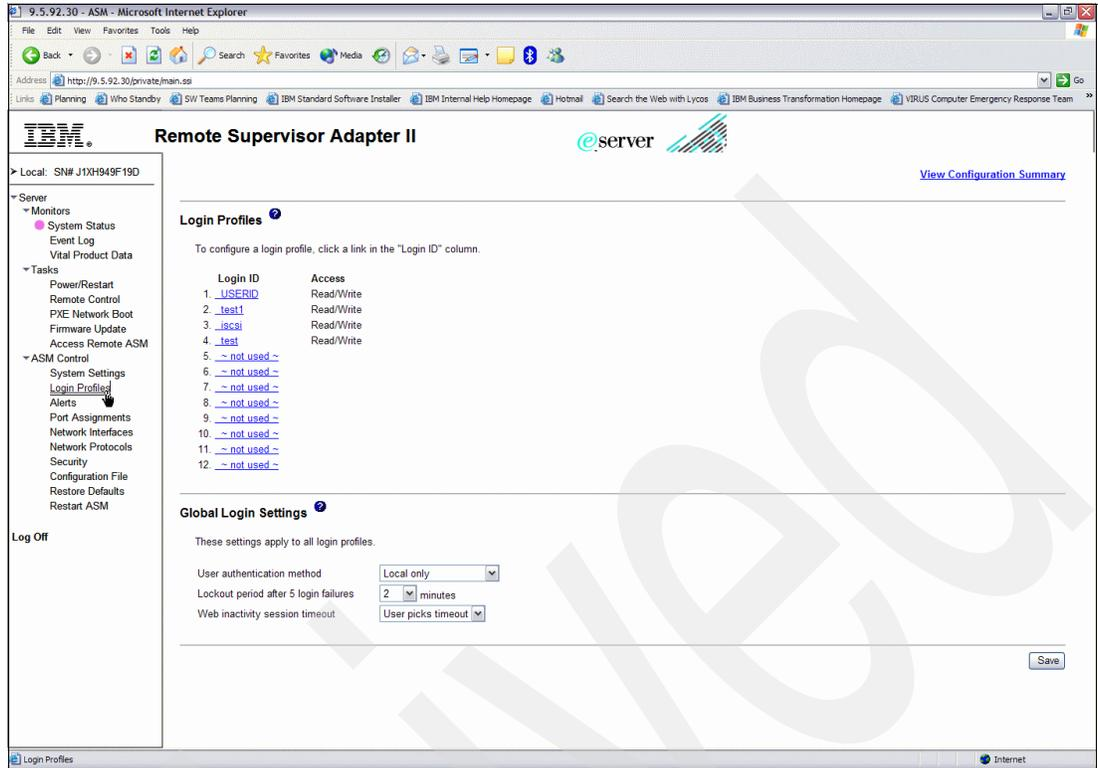

Figure 5-44 Login Profiles on RSAll
5. Select **Login Profiles** under **ASM Control** in the navigation pane on the left side of the window. The Login Profiles defined in the SP are shown in Figure 5-44 on page 142. Click the default user **USERID**.